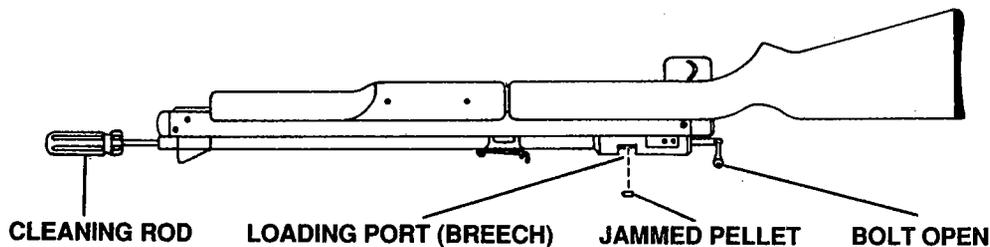

FIG. 8
- With the bolt in the open position, insert a cleaning rod (cleaning rods can be ordered from the factory) into the muzzle end of the barrel and gently push the jammed pellet into the pellet loading port (forward of the bolt). (Fig. 8) Don't try to reuse that pellet again.